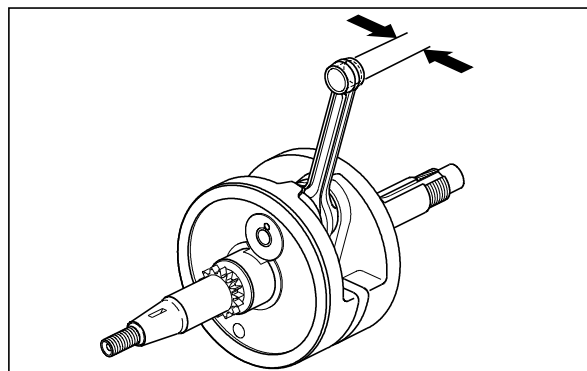

Fig. 3.184
- Measure internal diameter (ID) of the connecting rod small end. If ID is more than the service limit, replace the crankshaft assembly with a new one. (Fig. 3.184)